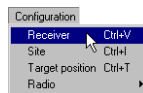

Figure 2-20. Configuration->Receiver
3. Click **Configuration->Receiver** (Figure 2-20).